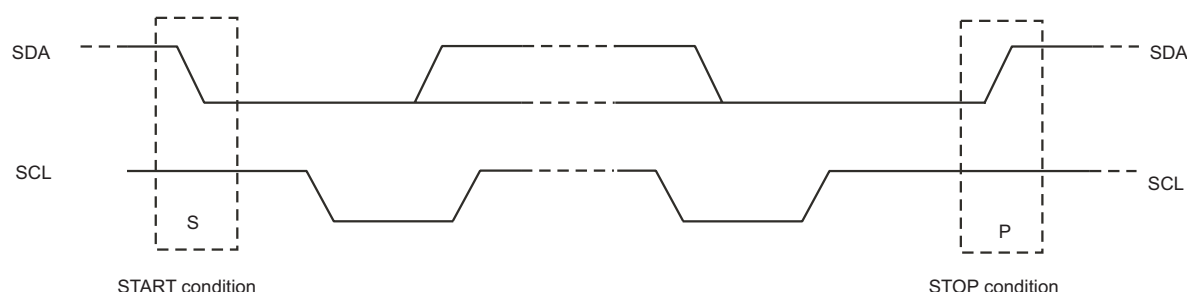

Figure 5. Definition of Start and Stop Condition
Both data and clock lines remain HIGH when the bus is not busy. A HIGH-to-LOW transition of the data line, while the clock is HIGH is defined as the START condition(S). A LOW-to-HIGH transition of the data line while the clock is HIGH is defined as the STOP condition (P), see Figure 5.